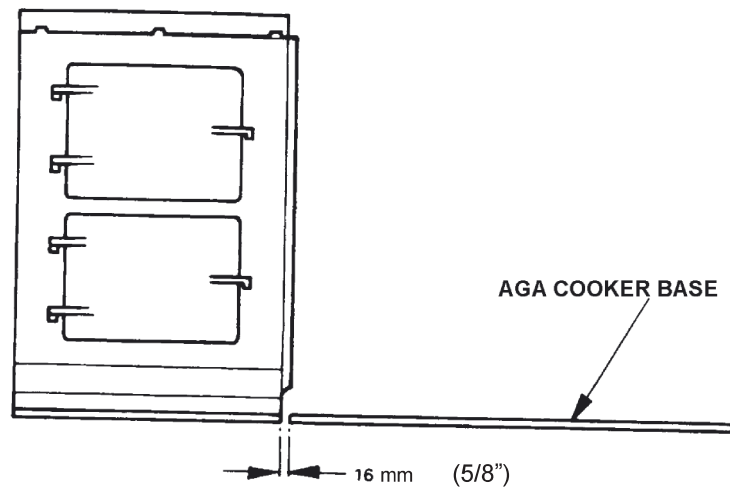

Fig 6
6. Position the cooker alongside the main AGA baseplate leaving 5/8" between the two bases (See Fig. 6).